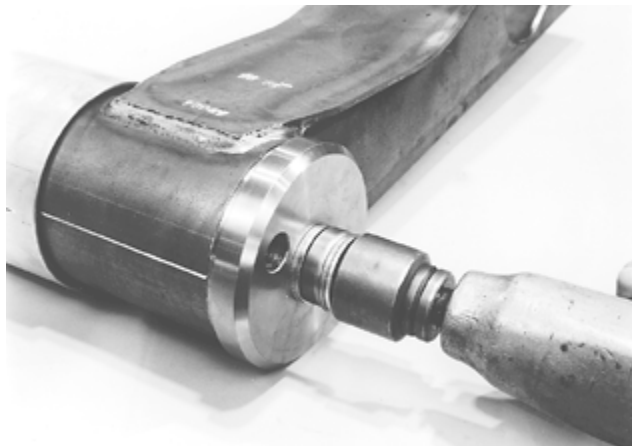

Figure 40: Installing bushing with impact wrench
12. Using a $\frac{3}{4}$ -inch impact wrench and a $1\frac{1}{16}$ -inch heavy-duty (six-point) impact socket, **install** the bushing by turning the hex head bolt clockwise (Figure 40).